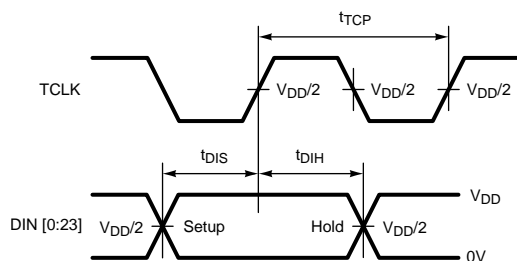

Figure 5. Serializer Setup/Hold Times
(2) Figure 5, Figure 15 show a rising edge data strobe (TCLK IN/RCLK OUT).
(3) Specification is guaranteed by characterization and is not tested in production.
(4) When the Serializer output is at TRI-STATE, the Deserializer will lose PLL lock. Resynchronization MUST occur before data transfer.
(5) t_{JIT} (@BER of 10e-9) specifies the allowable jitter on TCLK. t_{JIT} not included in TxOUT_E_O parameter.
(6) UI – Unit Interval, equivalent to one ideal serialized data bit width. The UI scales with frequency.